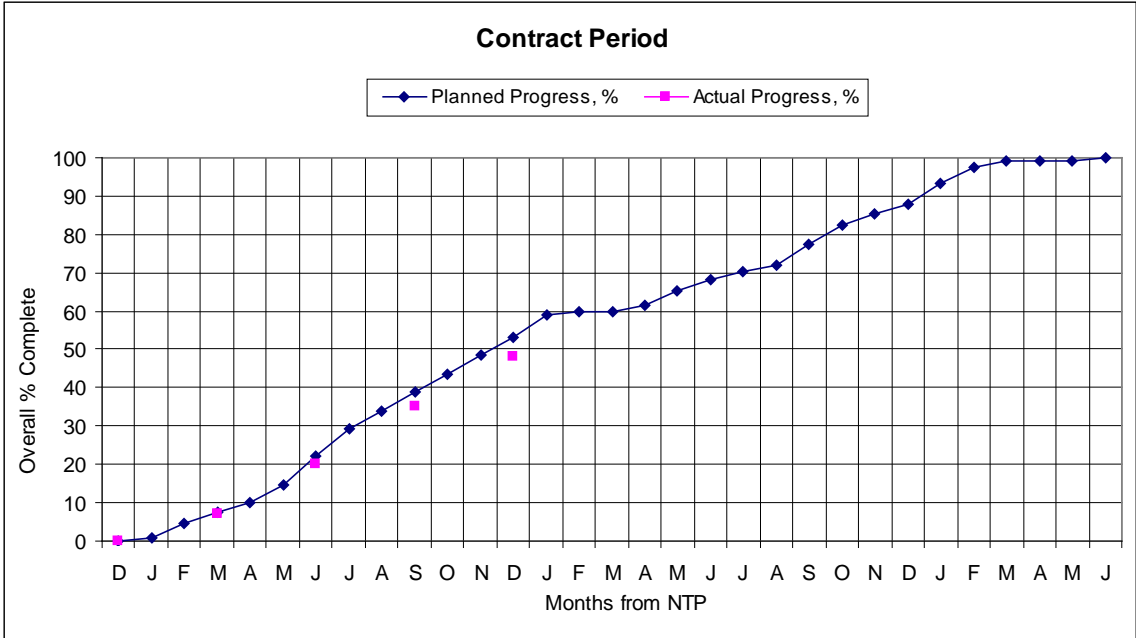
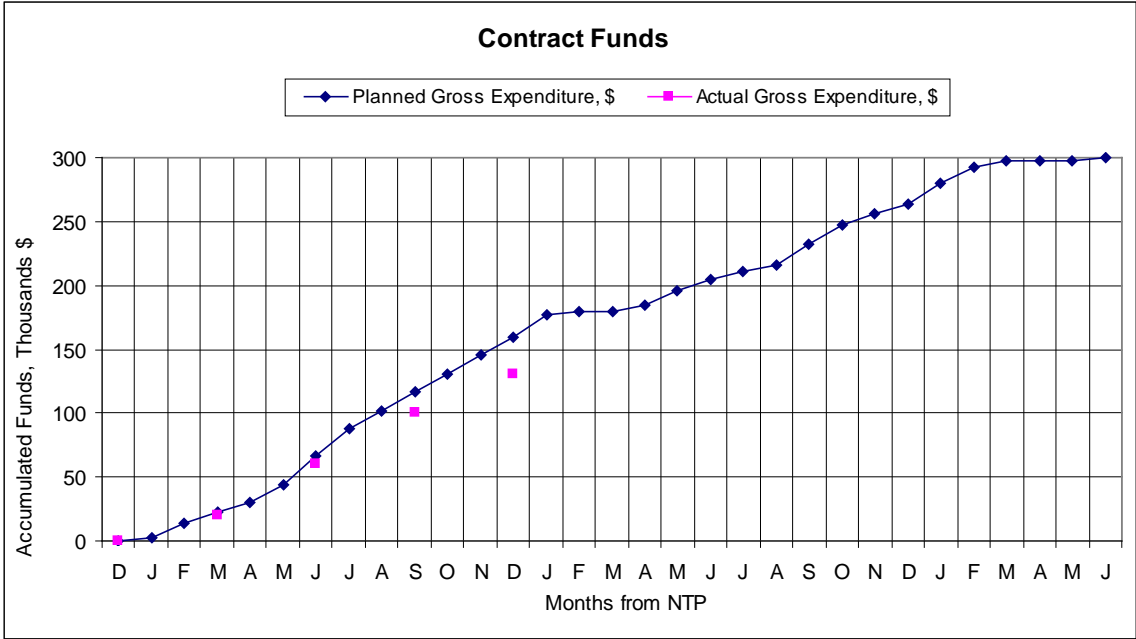

Figure C2. Planned vs. Actual Project Progress
Figure C3. Planned vs. Actual Gross Expenditures
In workbook sheet 2 the Consultant will also include an updated project progress graph, Planned vs. Actual Project Progress, with Actual Progress, %, plotted to date (Figure C2). An updated project expenditures graph, Planned vs. Actual Gross Cumulative Expenditures, will also be provided with Actual Gross Expenditure, \$, plotted to date (Figure C3). Both of these graphs are included on the same workbook sheet and horizontally aligned to allow vertical correspondence of the months along both horizontal graph axes. Note that the labeling along the x-axis of both graphs has been modified from number of months from the NTP date to the first letter of each month subsequent to the NTP date.
- Planned vs. Actual Project Progress, with Actual Progress, %, plotted to date (Figure C2)
- Planned vs. Actual Gross Cumulative Expenditures, with Actual Gross Expenditure, \$, plotted to date (Figure C3)